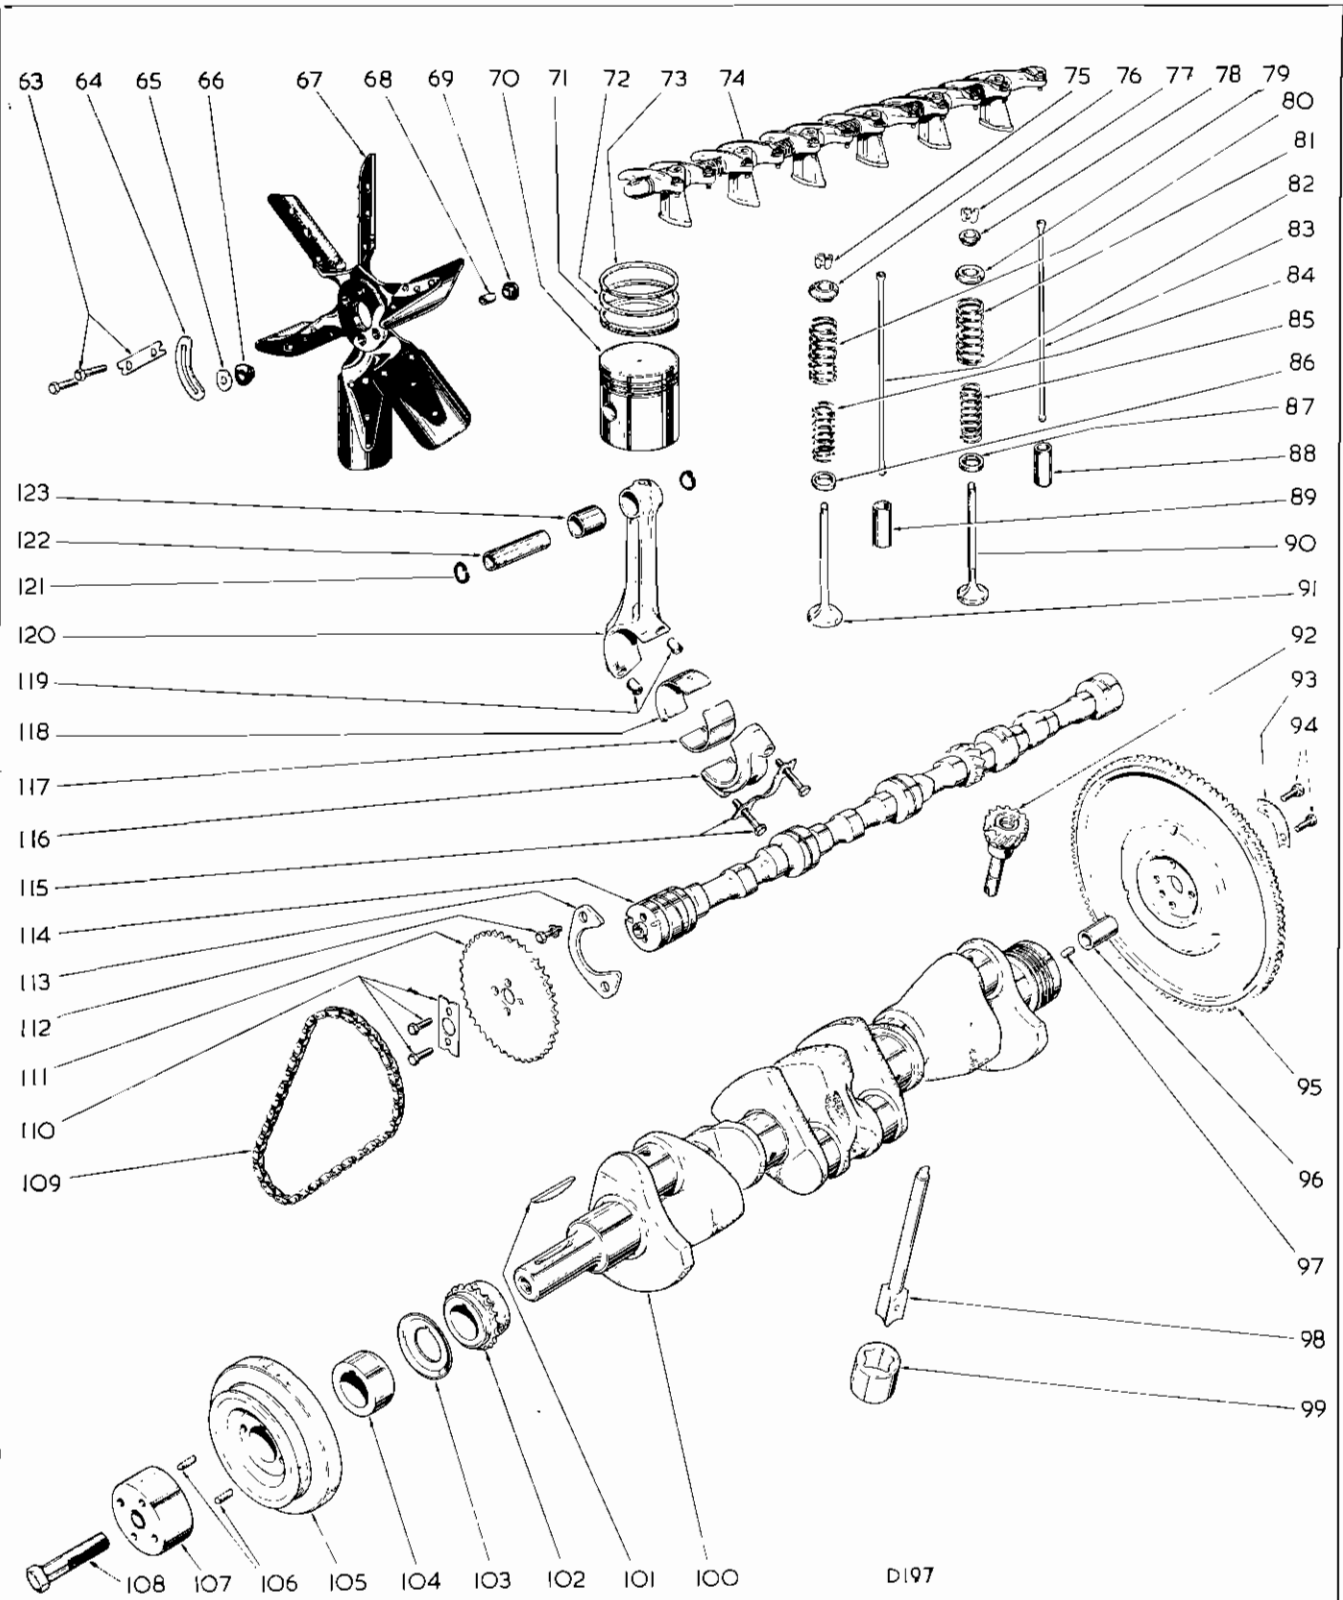

Fig. 10. Vitesse engine details (moving parts)
Key to Fig. 10
- Fuel pipe to pump (12).
- Cable to coil (8) and 'D' and 'F' cable to generator (10 and 11).
- Oil pressure switch cable (9).
Fit the shouldered rubber bushes (66), Fig. 10, steel bushes (68), balancer (64) and fan (67), aligning the holes in the balancer, fan and boss (107) with the shank of a  $\frac{1}{16}$ " (1.6 mm.) dia. drill to maintain the original balance of the assembly.